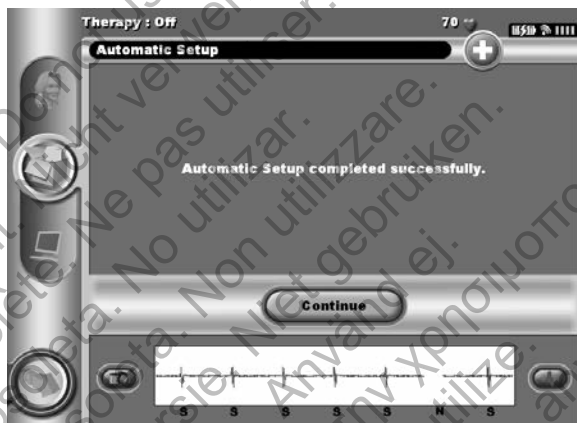

Figure 30: Confirmation of successful Automatic Setup
- When acquisition is complete, select the Continue button to finish the Automatic Setup process. A confirmation screen will appear when Automatic Setup is complete (Figure 30).